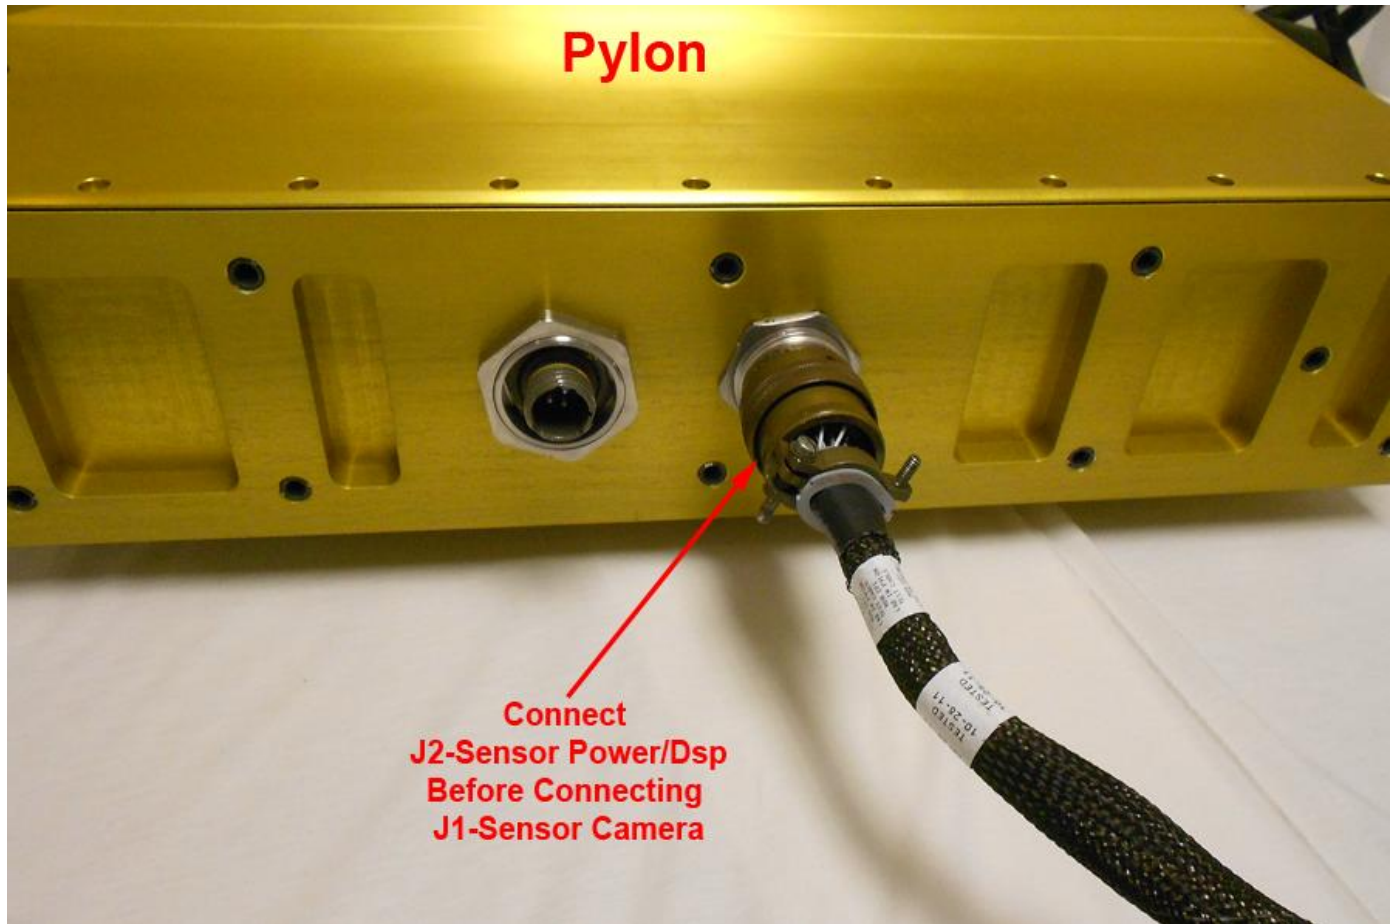

Figure 2.2.13 Connecting the power/dsp cable to the Sensor Head
5. Connect the power/DSP cable to J2 on the Pylon. See **Figure 2.2.13**: Connecting the power/dsp cable to the Pylon.
7. Connect the power/dsp cable that runs from J2 on the Data Acquisition System to J2 on the Sensor Head. See **Figure 2.2.13: Connecting the power/dsp cable to the Sensor Head**.